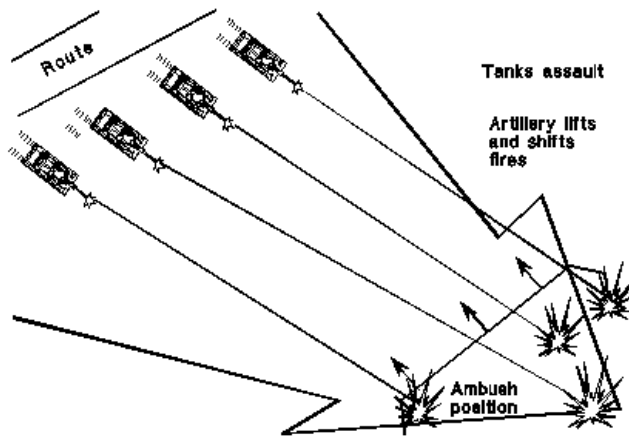

Figure 5-9B. Escort assaults ambush.
- o Assault the enemy (see Figure 5-9B).